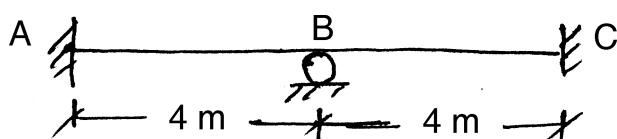

Fig. 1
1. Draw ILD for M_A , R_B and M_C of beam shown in Fig. 1. Show the ordinates at 1 m interval. 12